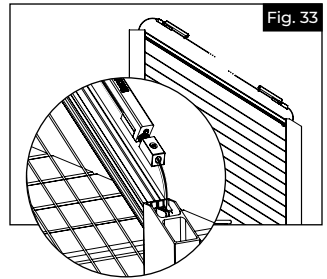

Fig. 33
- Feed cable through tension spring B and tensioner. Place tension spring B and tensioner into top beam at lower post (Fig. 33).